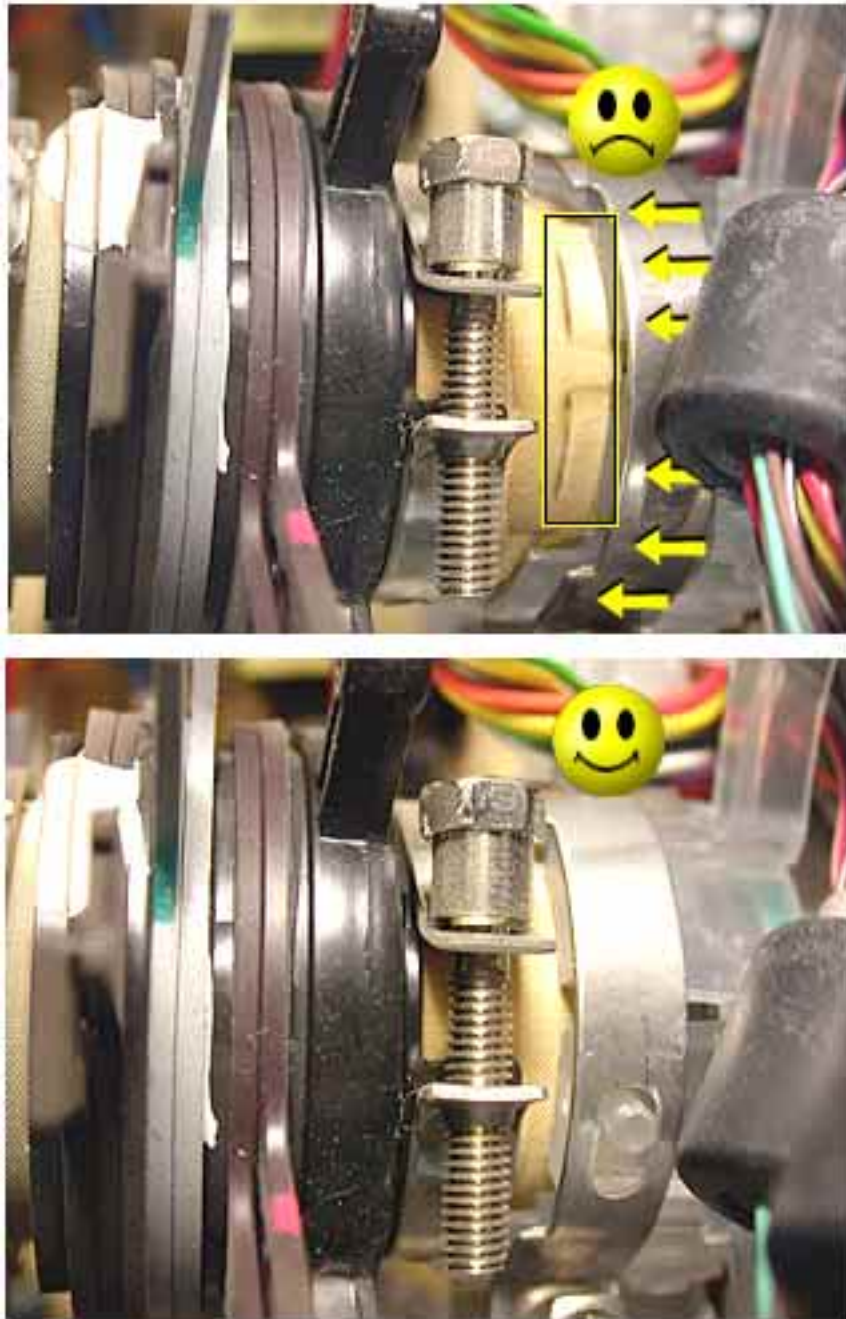

Figure 2 Video Board Improperly and Properly Seated
2. Make sure the video board is properly seated on the CRT neck (see Figure 2). The top picture shows the video board improperly seated; the bottom picture shows it properly seated. When the video board is properly seated, the plastic socket of the video board slides up to the retaining ring on the CRT neck, just before the CRT neck rings. **It is critical** that the video board be fully seated in order for the power/analog/video board to function properly.